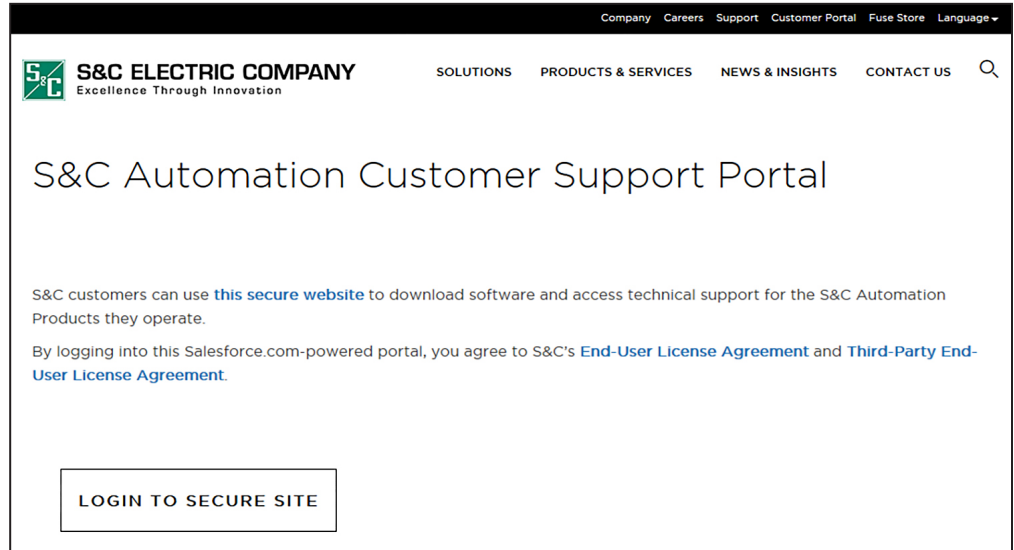

Figure 1. The S&C Automation Customer Support Portal is accessed on the Support tab at sandc.com.
- Windows PowerShell 5.0 must be set for an AllSigned execution policy (RemoteSigned and Unrestricted execution policies will also work). Policy selection should be based on security policy set forth by the IT department. The AllSigned execution policy will result in the appearance of a dialog, shown in Figure 1 on page 7, after a firmware update has begun.
The latest 6800 Series control software release is posted at the S&C Automation Customer Support Portal. This library of present and legacy software requires a password to provide users access to the software needed for S&C equipment operated by their utility. See Figure 1. A portal password can be requested by using this link: [sandc.com/en/support/sc-customer-portal/](https://sandc.com/en/support/sc-customer-portal/).